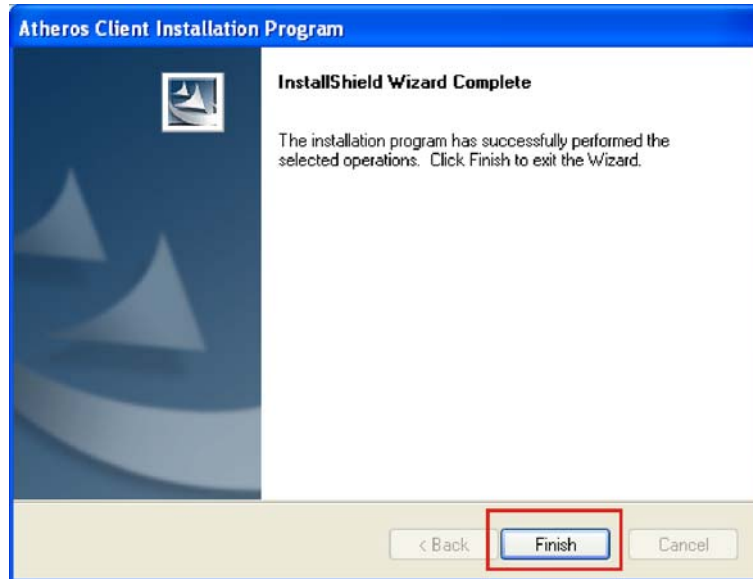

Figure 6-38: InstallShield Wizard Complete
Step 22: The installation process takes a few minutes. The installation is finished when the **InstallShield Wizard Complete** window appears (Figure 6-38).